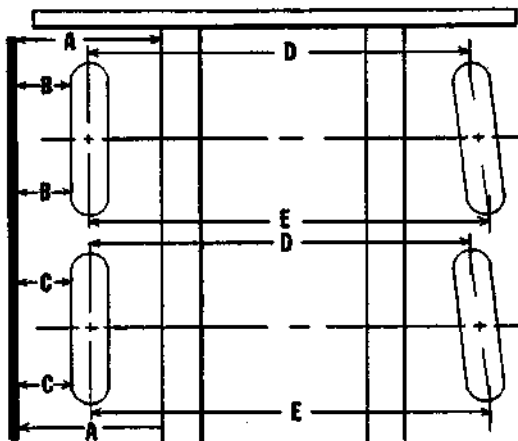

Fig. 3
Front Wheel Alignment: To obtain maximum tire life, the front wheels must be kept in proper alignment. Front wheel alignment should be checked periodically, and corrected if necessary. This is more critical on a tandem axle machine than on a single axle machine. If the wheels are not properly aligned, the tires will "fight" each other, causing abnormal tire wear. This is caused by one set of tires pointing in a slightly different direction than the other set of tires. To correct, or check front wheel alignment the following procedure should be followed: (See Fig. 3.)
- Operate the steering until the two left wheels are in line with each other, and straight ahead with respect to the carrier frame. This may be checked as illustrated in Fig. 3. Place a straight edge next to the wheels. Make sure it is parallel to the frame by measuring at (A). When the straight edge is in position, measure from it, to the milled area where the tire lugs are located. This is
indicated by (B) and (C) in Fig. 3. When the wheels are in line with each other, (B) should equal (C), and (C) should equal (D). A drag link adjustment may be necessary to correct any misalignment.
- Once the front left tires are in alignment the toe-in must be checked. Toe-in may be checked by scribing a chalk link around the circumference of each wheel, at the center of thread. The difference between the distance (D) on the front of the tire, and (E) on the back of the tire indicates the amount of toe-in. The measurement of (D) should be $1/8" \pm 1/32"$ (3.175mm) less than the measurement at (E). This may be changed by adjusting the length of the tie rod.